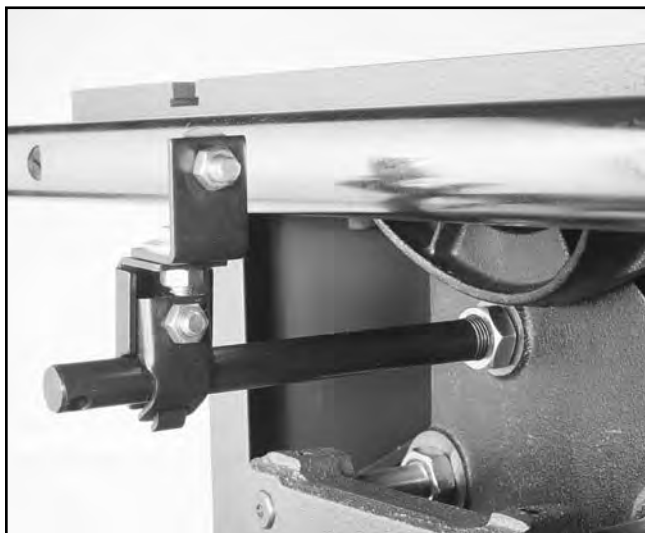

Figure 25. Installing blade guard.
1. Screw the threaded end of the support shaft into the hole in the back of the rear trunnion. The check nut on the shaft will be used to tighten the shaft in place as shown in **Figure 25**. Leave it loose for now.